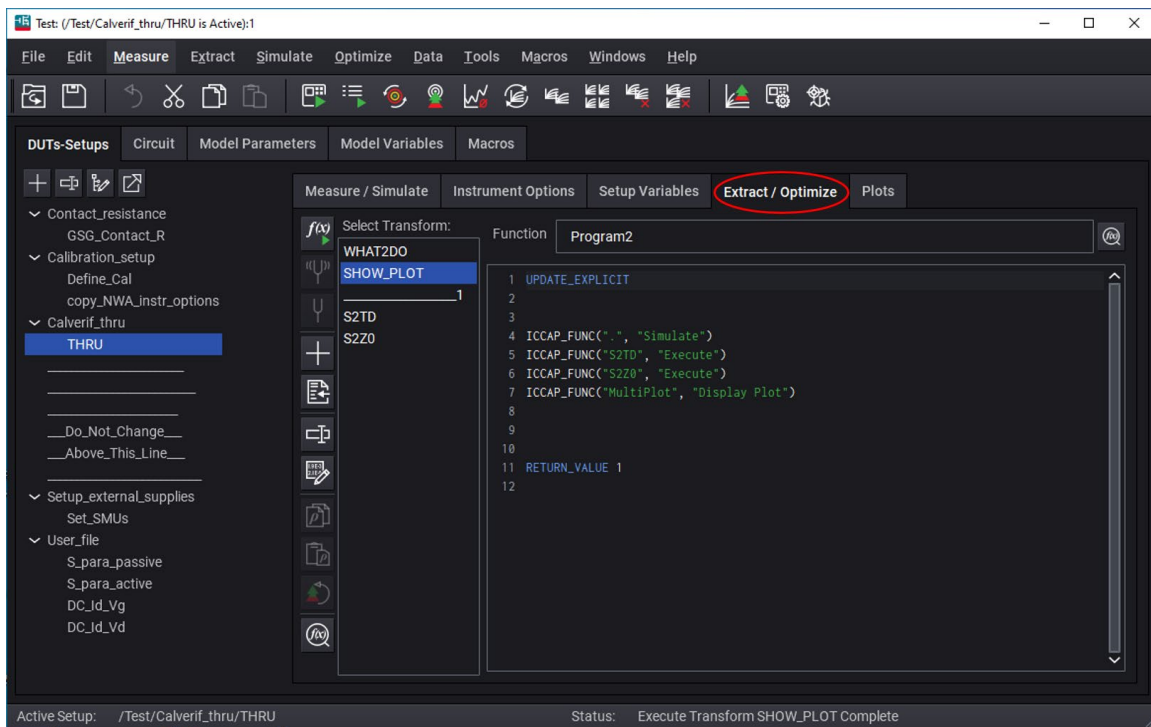

Fig. 7.18. Extract measured characteristics of the "THRU" standard.
- 7.24 If there is no error and "Measure Complete" shows up on the bottom, go to "Extract/Optimize," and double click on "SHOW_PLOT" as shown in Fig. 7.18. For a good calibration, the insertion loss should be on the order of 0.1 dB across the defined frequency range (Fig. 7.19), even though it increases monotonically with frequency. The "THRU" standard is 1-ps long. However, the calibrated delay time may be shortened by the probe skate.